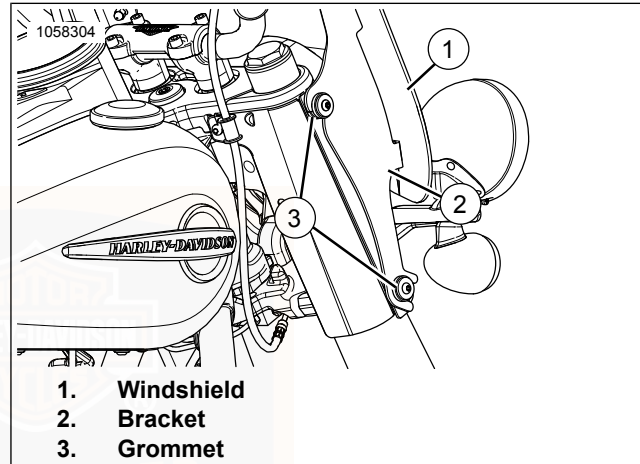

Figure 42. Windshield Assembly
1. See Figure 42. Move the TOP of the windshield assembly (1) forward, until the TOP bracket (2) notches slide away from the grommets (3).
- See Figure 42. Verify grommets (3) and brackets (2) are in place and in good condition.